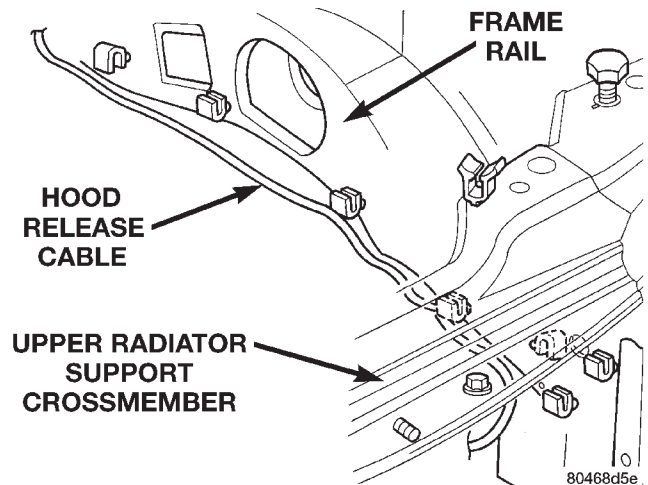

Fig. 5 Hood Release Cable Routing
- (4) Release clips holding hood release cable to left inner frame rail (Fig. 5).
- (5) Disengage rubber grommet at lower dash panel.
- (6) Disengage push-in fastener holding hood release cable to dash panel.
- (7) Separate hood release cable from vehicle.
- (2) Engage rubber grommet to lower dash panel.
- (3) Engage push-in fastener holding hood release cable to lower dash panel.
- (4) Install screws holding hood release cable handle to inner cowl panel.
- (5) Install left front cowl trim panel.
- (6) Engage hood release cable into clips along inner frame rail (Fig. 5).
- (7) Install hood latch.